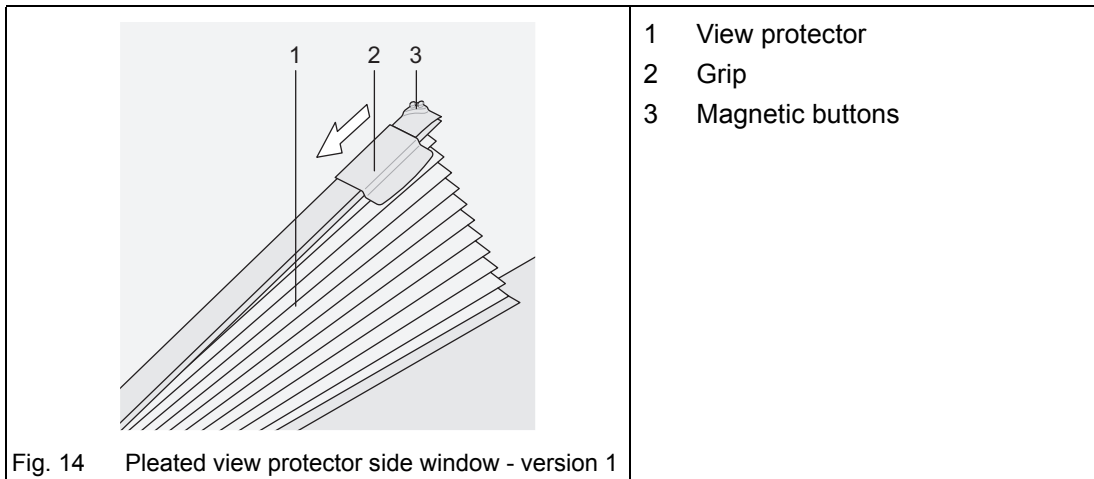

Fig. 14 Pleated view protector side window - version 1
The pleated view protectors (Fig. 14/1) are integrated in the right and left door frames in the driver's cab.
- ➔ Slide the grip (Fig. 14/2) in the direction of the arrow. This unlocks the pleated view protector.
- ➔ Unfold the view protector (Fig. 14/1) and attach it to the window frame using the magnetic buttons (Fig. 14/3).